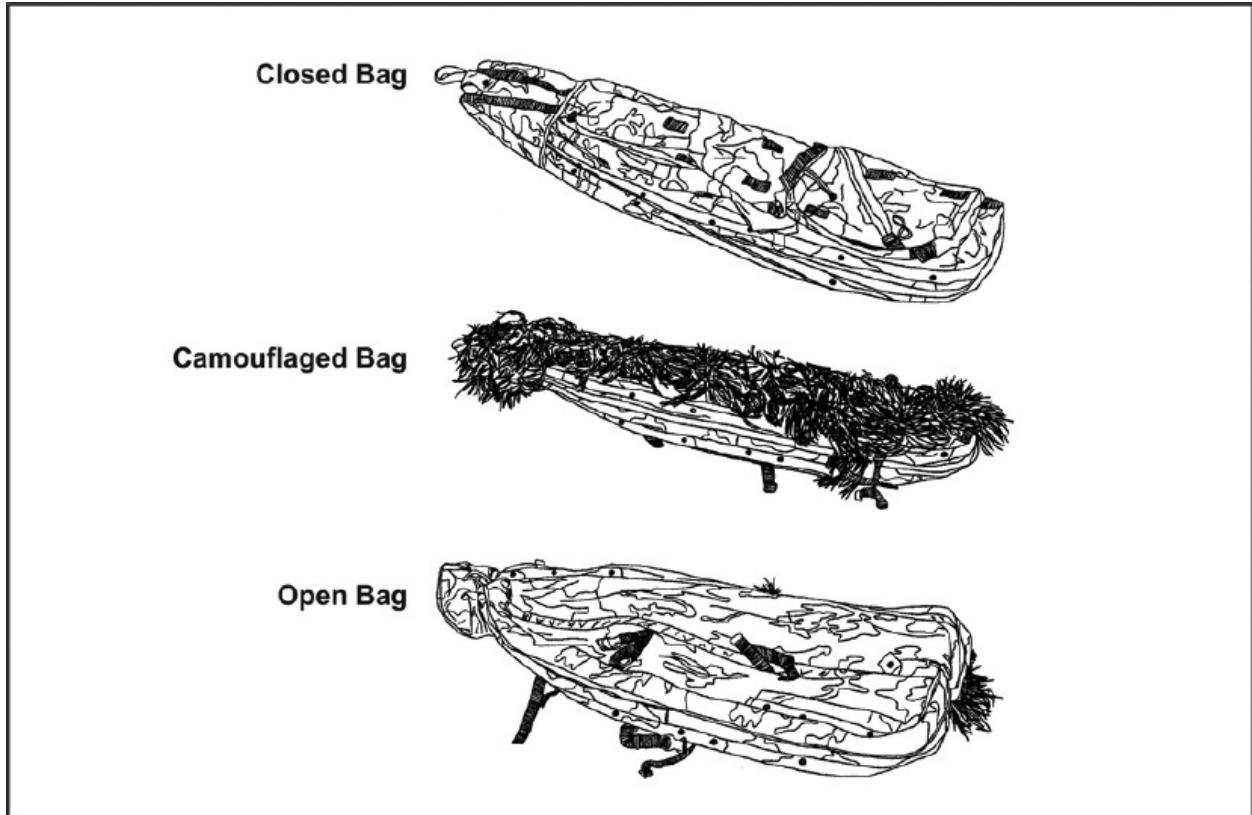

Figure 4-2. Construction of an equipment “drag bag”
- *Rifles.* The SWS and the M4/M16/M203 should also be camouflaged to break up their outlines. The SWS can be carried in a “drag bag” (Figure 4-2), which is a rifle case made of canvas and covered with garnish similar to the ghillie suit. However, the rifle will not be combat ready while it is in the drag bag. The drag bag can become a liability in many circumstances.